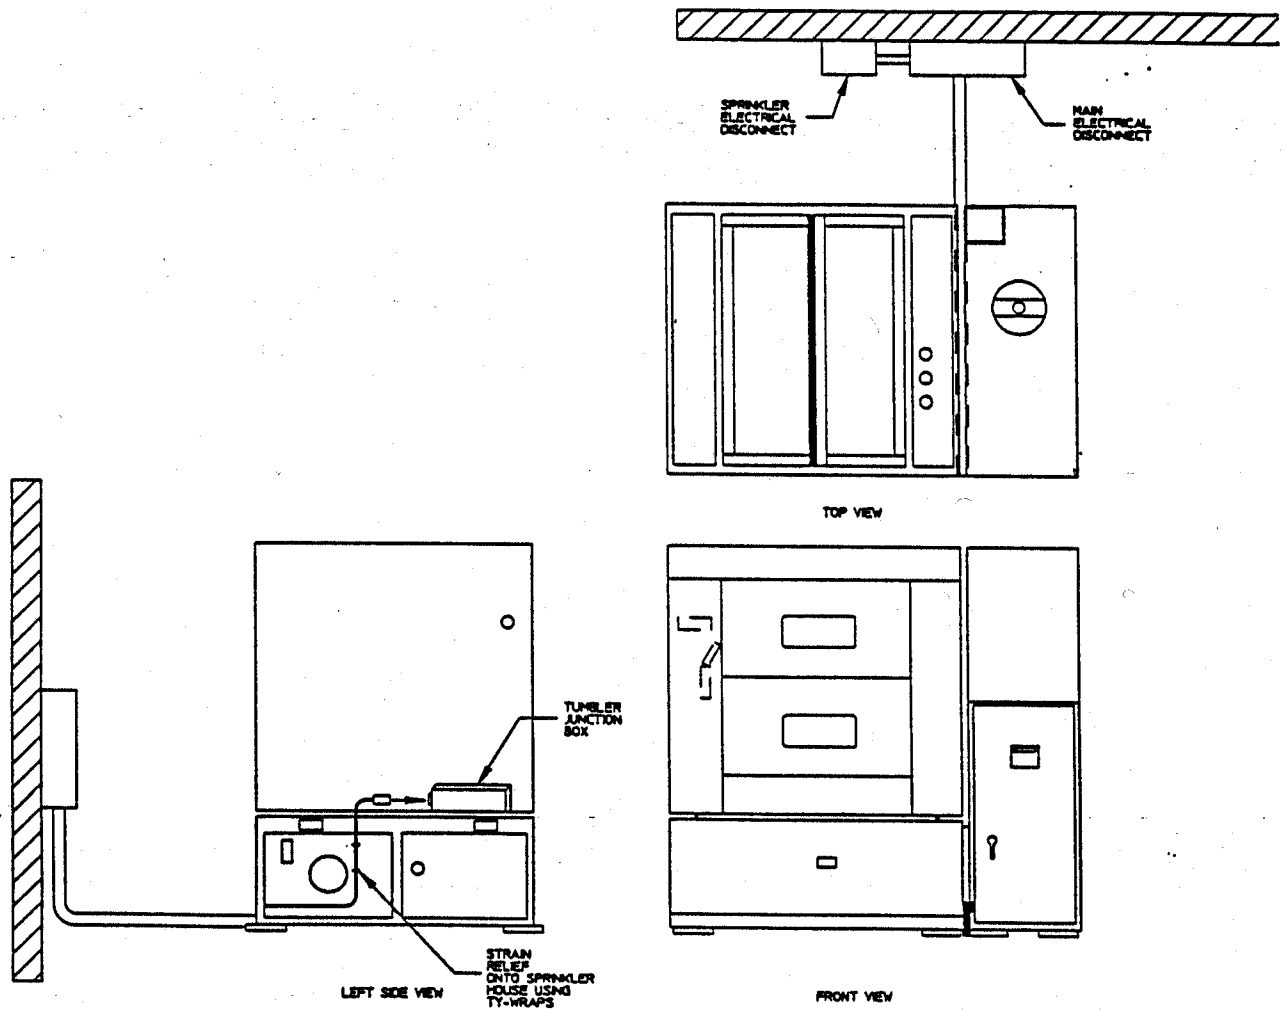

FIGURE 4
2. If the TUMBLER section of the AD-400 was shipped separately, locate a labeled disconnect plug in the Lint Fan area of the dryer. Route this connector through the tumbler section of the machine, and connect it to the Tumbler Junction Box. Strain relief as noted. Fig. 4